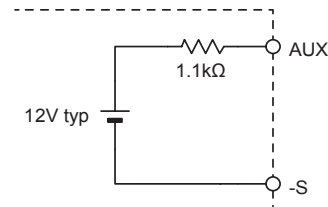

Fig.3.10 AUX circuit
■AUX is designed as shown in Fig.3.10, and a resistor (1.1kΩ) is built in to protect the short circuit. Output voltage decreases as the output current increases.